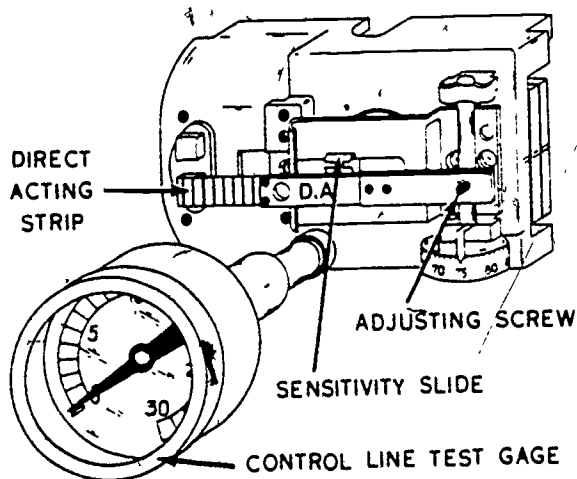

Figure 2-55. Room thermostat with a test gage installed.
- (1) Remove the capscrew and install a control line test gage, as shown in figure 2-55.
- (2) Set the dial to the ambient temperature (control point).
- (3) Turn the adjusting screw until the control pressure is at the middle of the spring range of the controlled device to the 1/2 opened position.
- (4) Turn the dial to the desired temperature (set point), remove the test gage, and replace the capscrew. For other types, refer to the manufacturer's instructions.